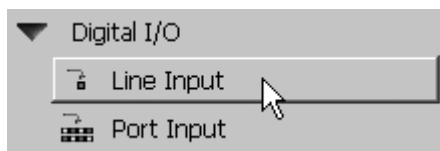

Figure 11.19
1. Connect four digital signals (0 or 5 Volts DC) to port 0, lines 0–3. If you don't have this many digital signals, you can connect one source to all channels. If you are using a simulated NI-DAQmx device (as described in Chapter 10), there will be a simulated digital signal on your simulated device's digital input channels—the digital signal will be a binary counter that starts at zero (0) and increments each time you read the data.
3. From the configuration dialog of your **DAQ Assistant VI**, choose a **Digital I/O>>Line Input** measurement type (see Figure 11.19).